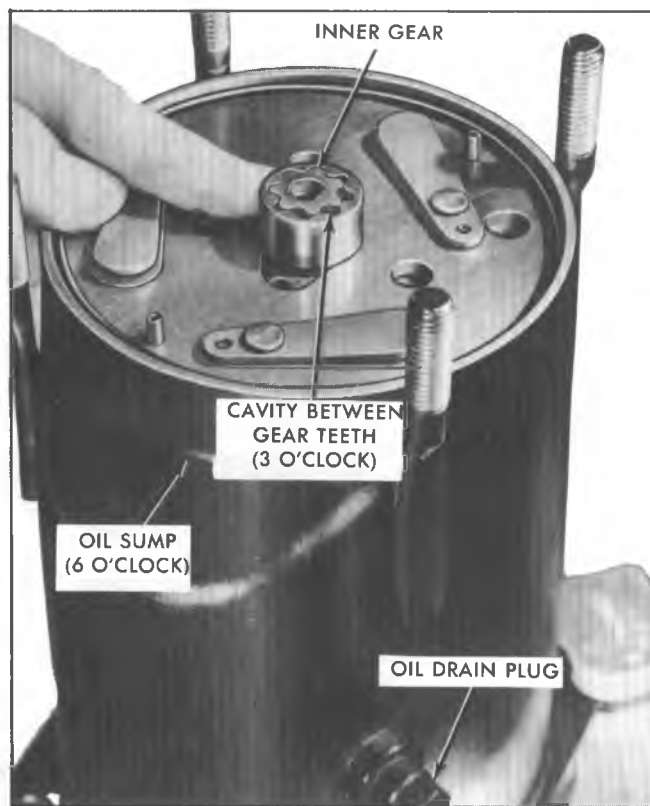

Fig. 65--Positioning Oil Pump Gears
19. Position outer oil pump gear over inner gear with previously applied identification **mark UP** and, when standing facing oil sump, position outer gear so that it meshes with inner gear at the 9-o'clock position, and resulting cavity between gear teeth is then at 3-o'clock position (Fig. 65).